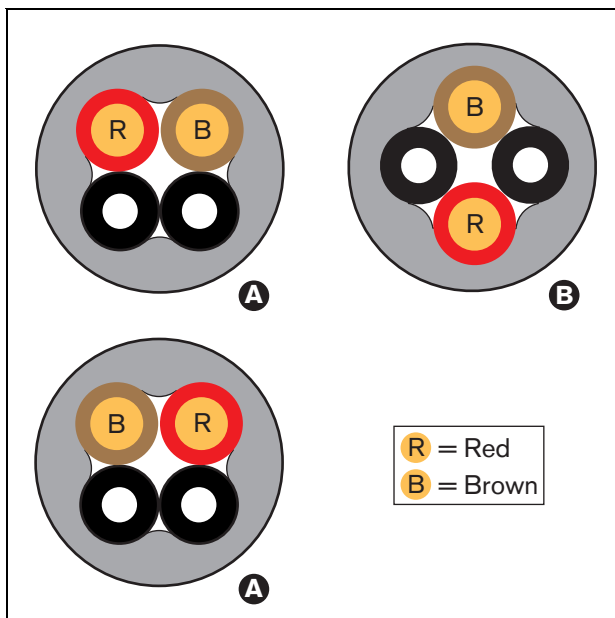

figure 22.5: Cable types
- Type A cables in which the plastic optical fibers are located next to each other (see figure 22.5, which shows both cable ends).
- Type B cables in which the plastic optical fibers are located opposite to each other (see figure 22.5, both cable ends are identical).